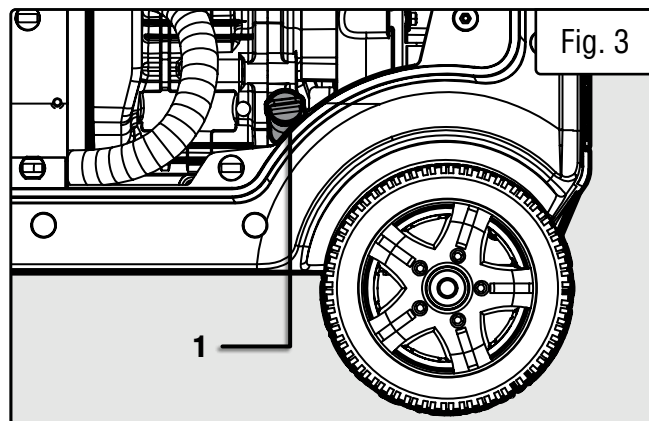

Fig. 3
2. Unscrew the oil dipstick (Fig. 3 - 1) from the engine.